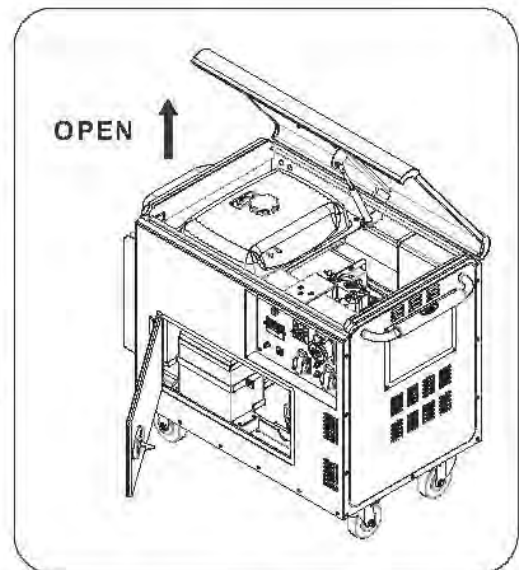

Fig 2B
- Open the top cover plate upwards.(See Fig 2B)